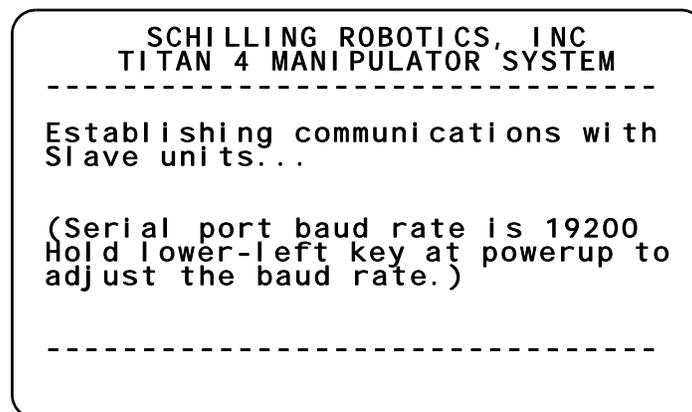

Figure 6 Establishing communications message
2. Turn on the master controller power switch. The message "Establishing Communications with slave arm" (Figure 6) will appear briefly and, if all system conditions are normal, then default to the Startup screen (Figure 7).